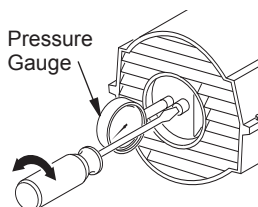

Figure 17 - Adjusting Pump Pressure (40/50/55/60/70 Models Shown)
4. Adjust pressure. Turn relief valve to right to increase pressure. Turn relief valve to left to decrease pressure. See specifications correct pressure for each model (see Figure 17).